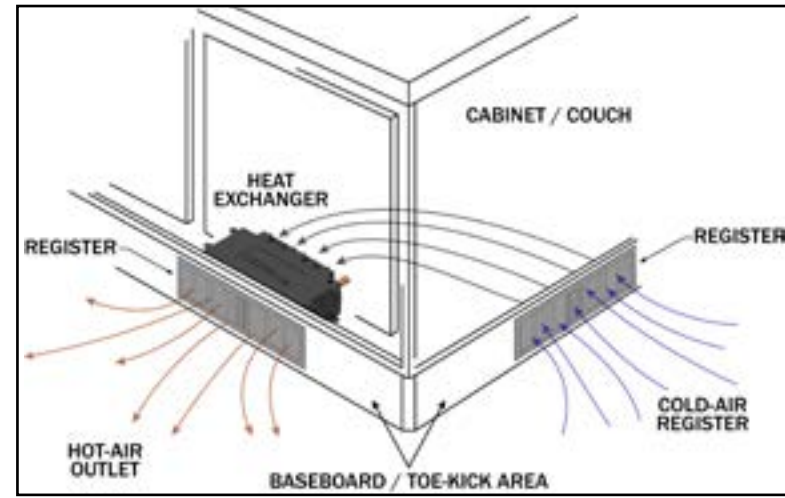

Figure 16
1. Cut out a 2.5" x 10" (7cm x 26cm) opening for each heat exchanger outlet and cold-air return grate as shown in Figure 16.
3. Install the hot-air outlet and cold-air return grate. Figure 16.